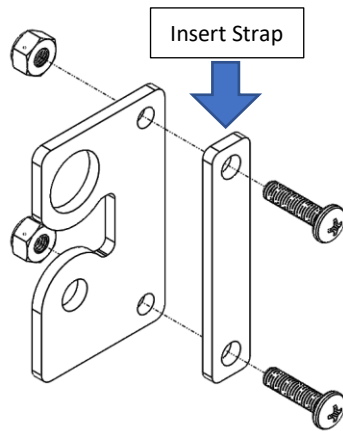

Figure 7: Strap Clamp Assembly
21. Install the door strap onto the hard stop bracket using the strap clamp to secure it. Feed the strap clamp through the largest eyelet in the strap and bolt it to the hard stop bracket. Direct the strap towards the lower hinge when tightening down the clamp. Reference Figure 7 and 8.